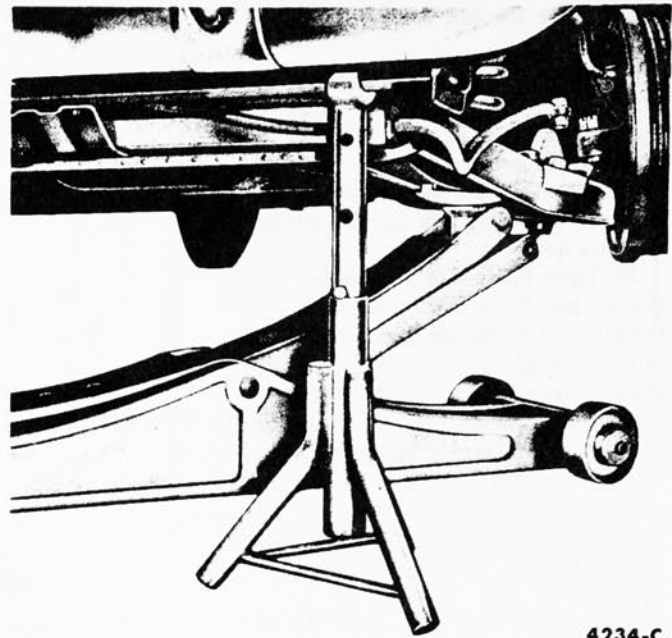

FIG. 7—Jack Positioned Under Lower Arm
7. Place a jack under the lower arm at approximately a 60° angle away from the wheel and toward the center of the car. Hook the saddle of the jack over the outer edge of the spring seat (Fig. 7).